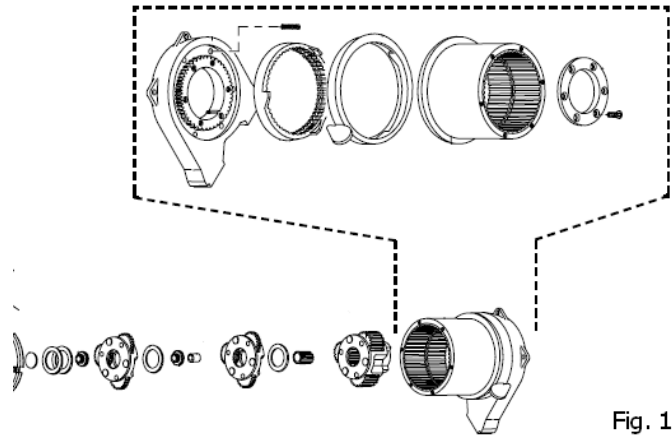

Fig. 1
5. Once adjustments or replacement has been done, reinstall the gear housing to the end bearing and reinstall the the Retainer – Ring Gear with the springs and screws. Replace gears in gear housing same as removed, see fig. 1 or refer to parts list to assure gears installed correctly.